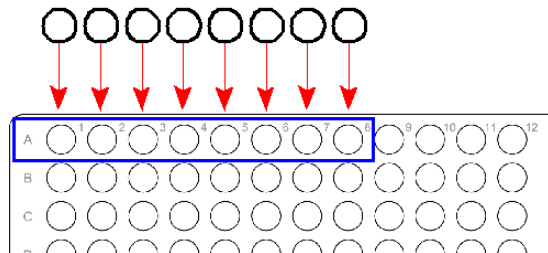

Figure 4 Addition of Digestion Master Mix to samples
5. Use multichannel P20 pipette and add **14.75 µL** of the Digestion Master Mix to each sample in row A (Figure 4).